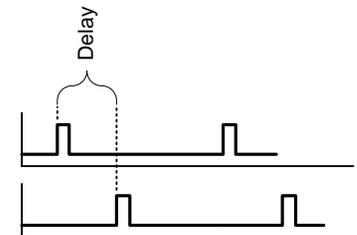

Figure 1 Trigger Delay
**Trigger mode:** The delay block captures rising edges only and produces a delayed trigger pulse. See figure 1.